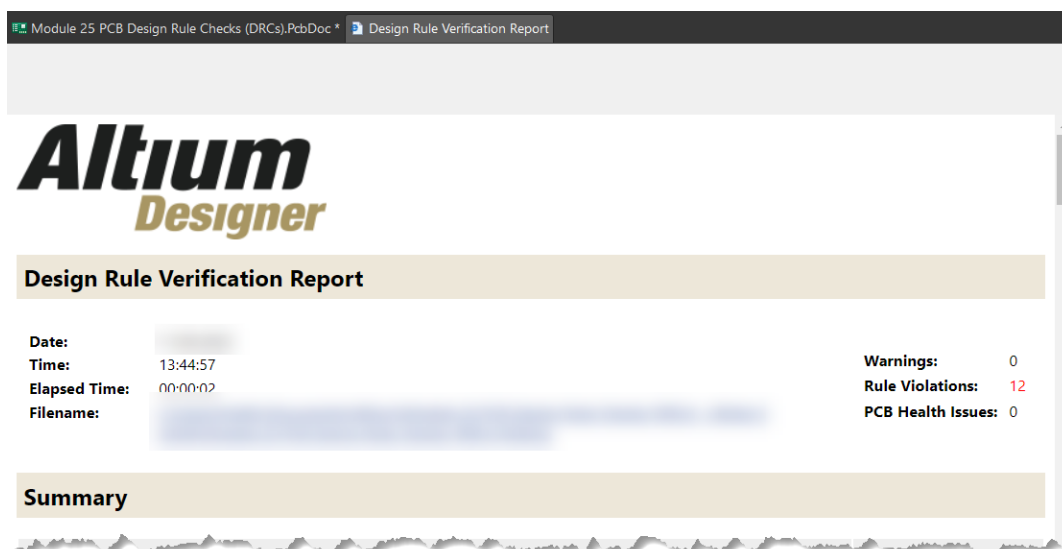

Figure 4. Rule violations in the report file
16. The *Design Rule Verification Report* should generate showing the number and the type of violations, as shown in Figure 4.